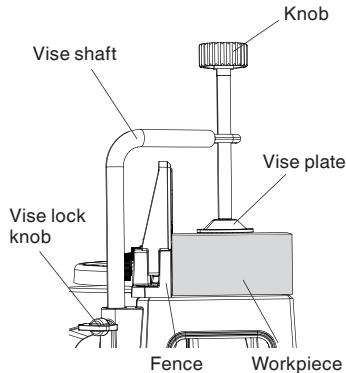

Fig. 25
- (1) The vise assembly can be mounted on the base.
- (2) Turn the upper knob and securely fix the workpiece in position (Fig. 25).